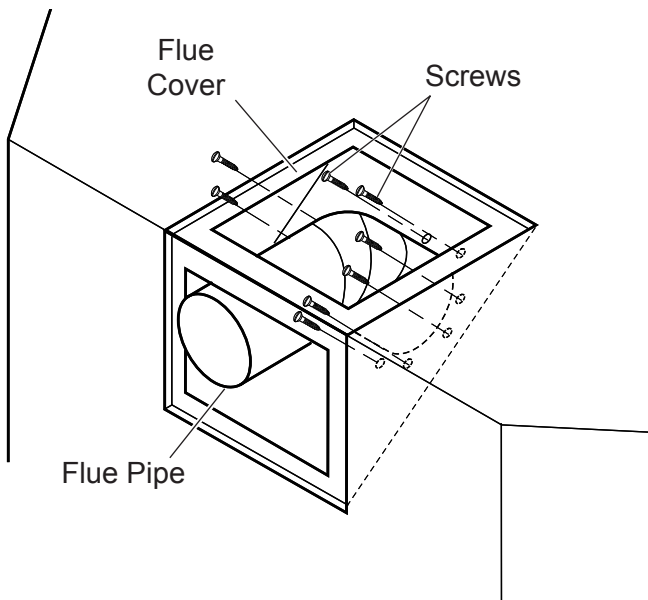

Figure 14 - Removing Flue Pipe
4. Remove eight (8) screws securing the flue pipe to the back of the intake box and remove the pipe and gasket. *See Figure 14.*